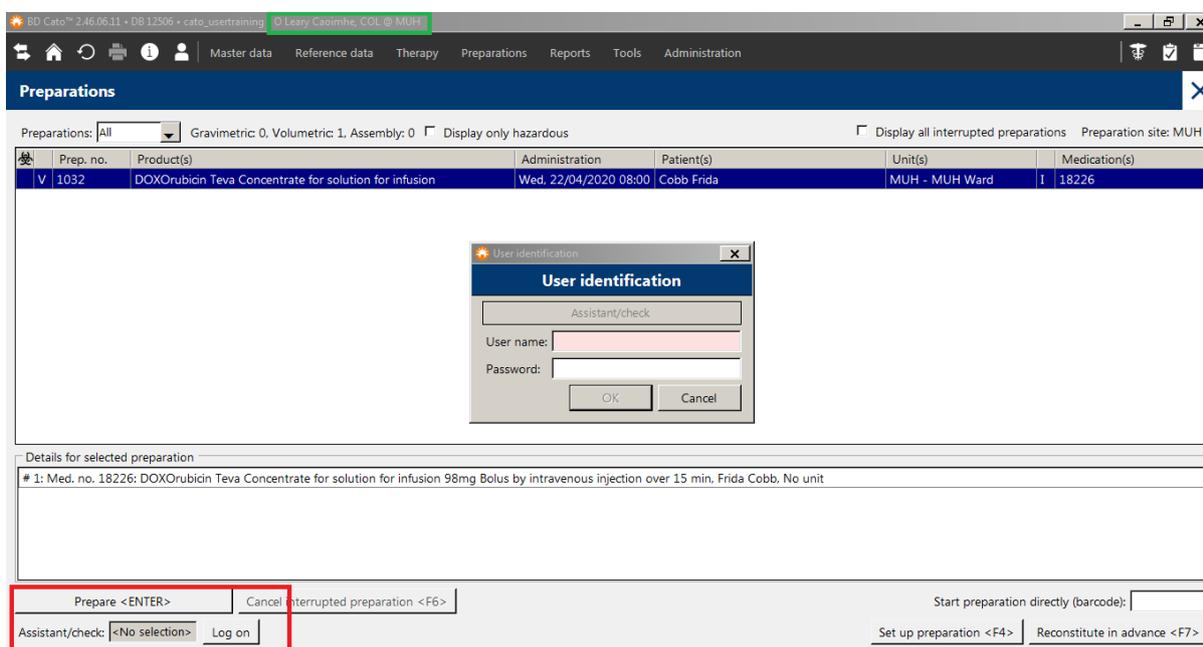

Figure 1: Assistant/check log in screen
1. For guided preparation where a technician is compounding in an isolator with a screen, the technician doing the compounding is logged in (green box in Figure 1).
2. In the bottom left corner of Figure 1 (red box), a second person logs as the “assistant/check.”